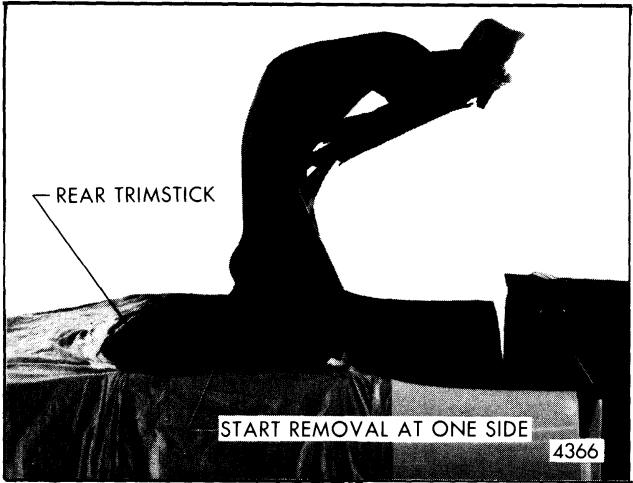

Fig. 8-58-Lifting Rear Trimstick From Body
- B. Lift trimstick, center bow and gutter assembly forward and upward as shown in Figure 8-58.